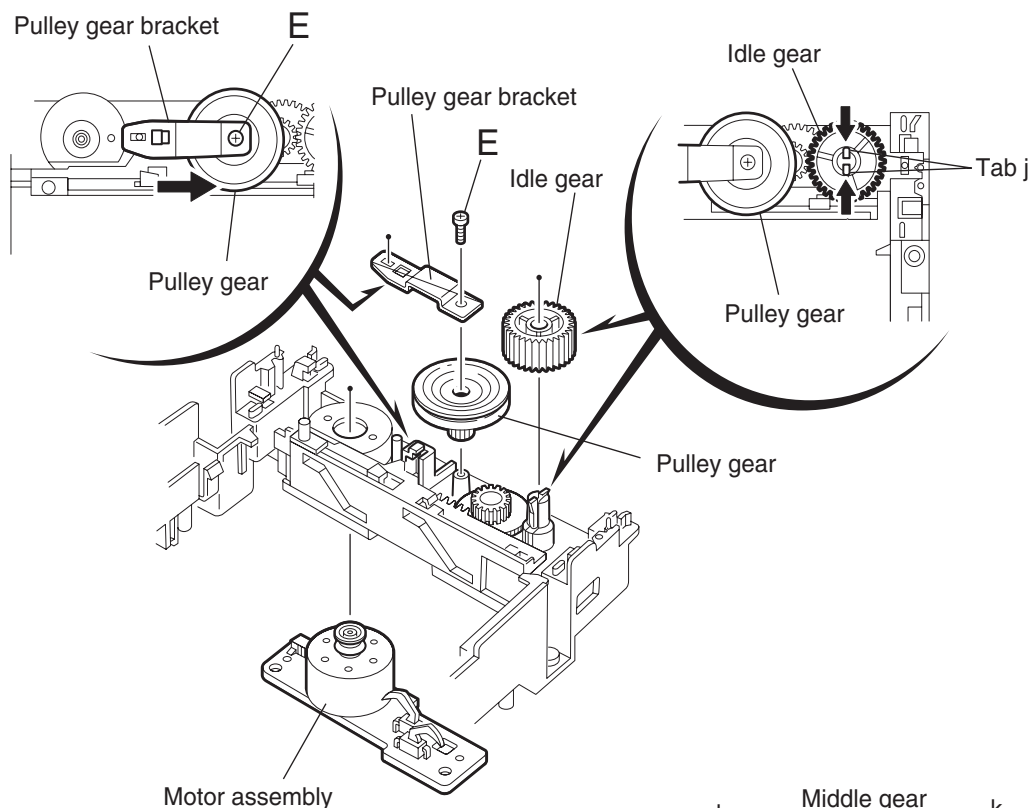

Fig.11
■ Removing the idle gear/ pulley gear/ middle gear/ slide cam (See Fig.11~13)